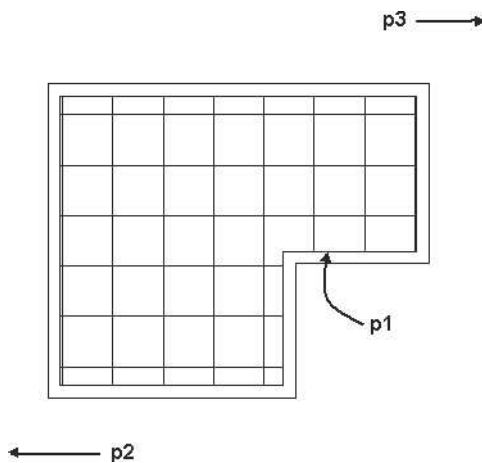

FIGURE 13.51 Ceiling grid sized and attached to a boundary
3. Choose **Select object** from the **Boundary** field of the **Properties** palette. Select a space at **p1** as shown in Figure 13.51.
Insertion point or: *(Select a point near p2 as shown in Figure 13.51.)*